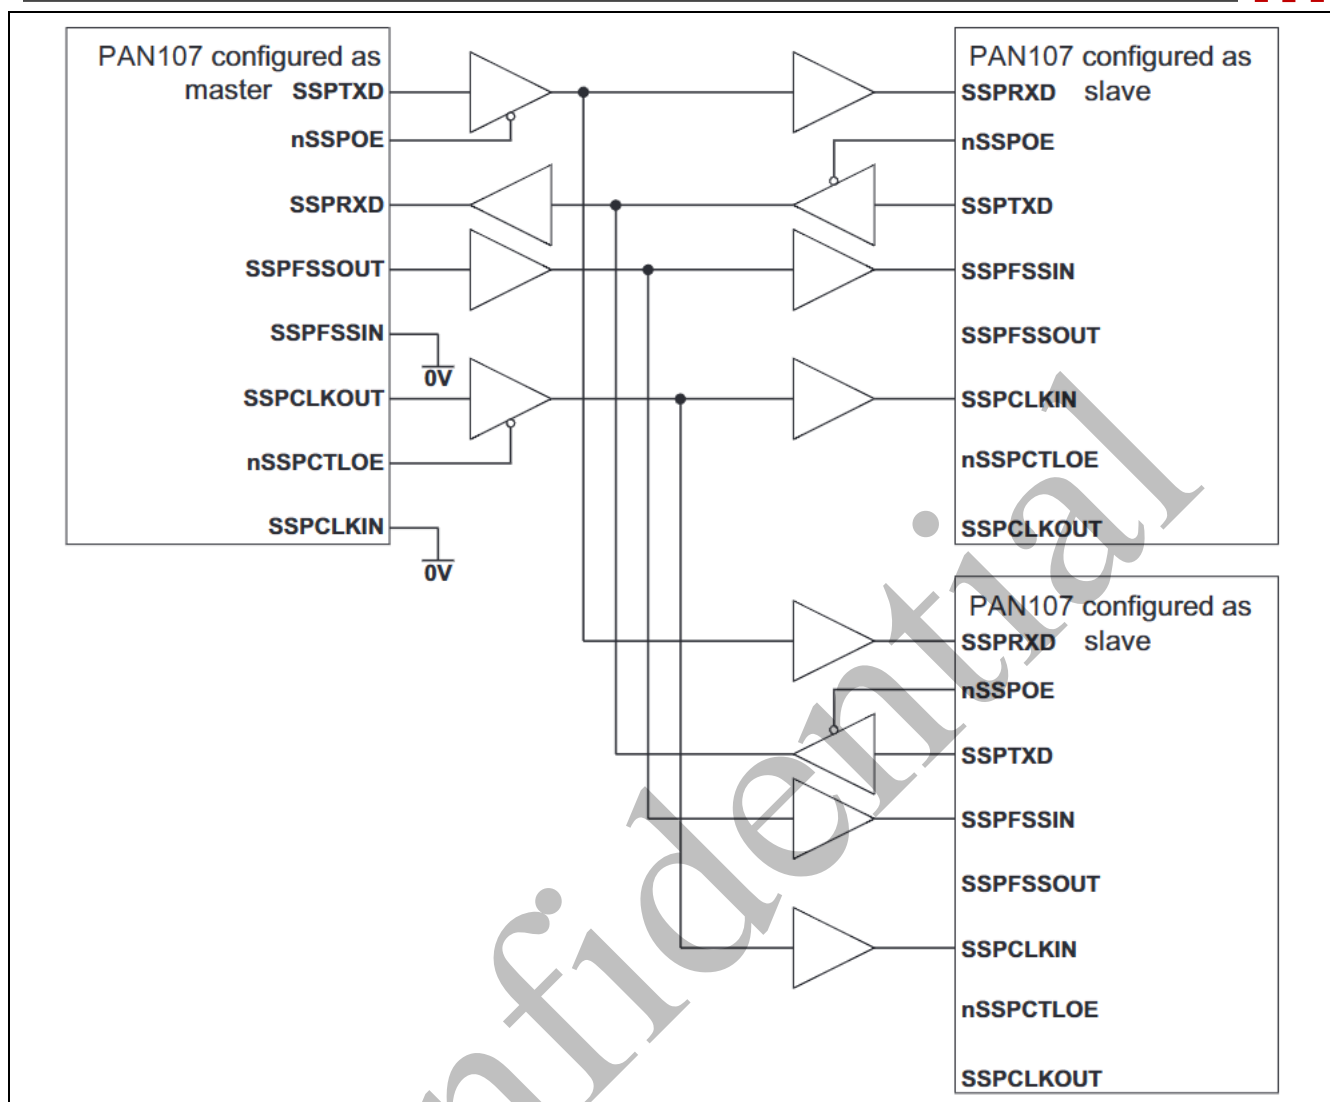
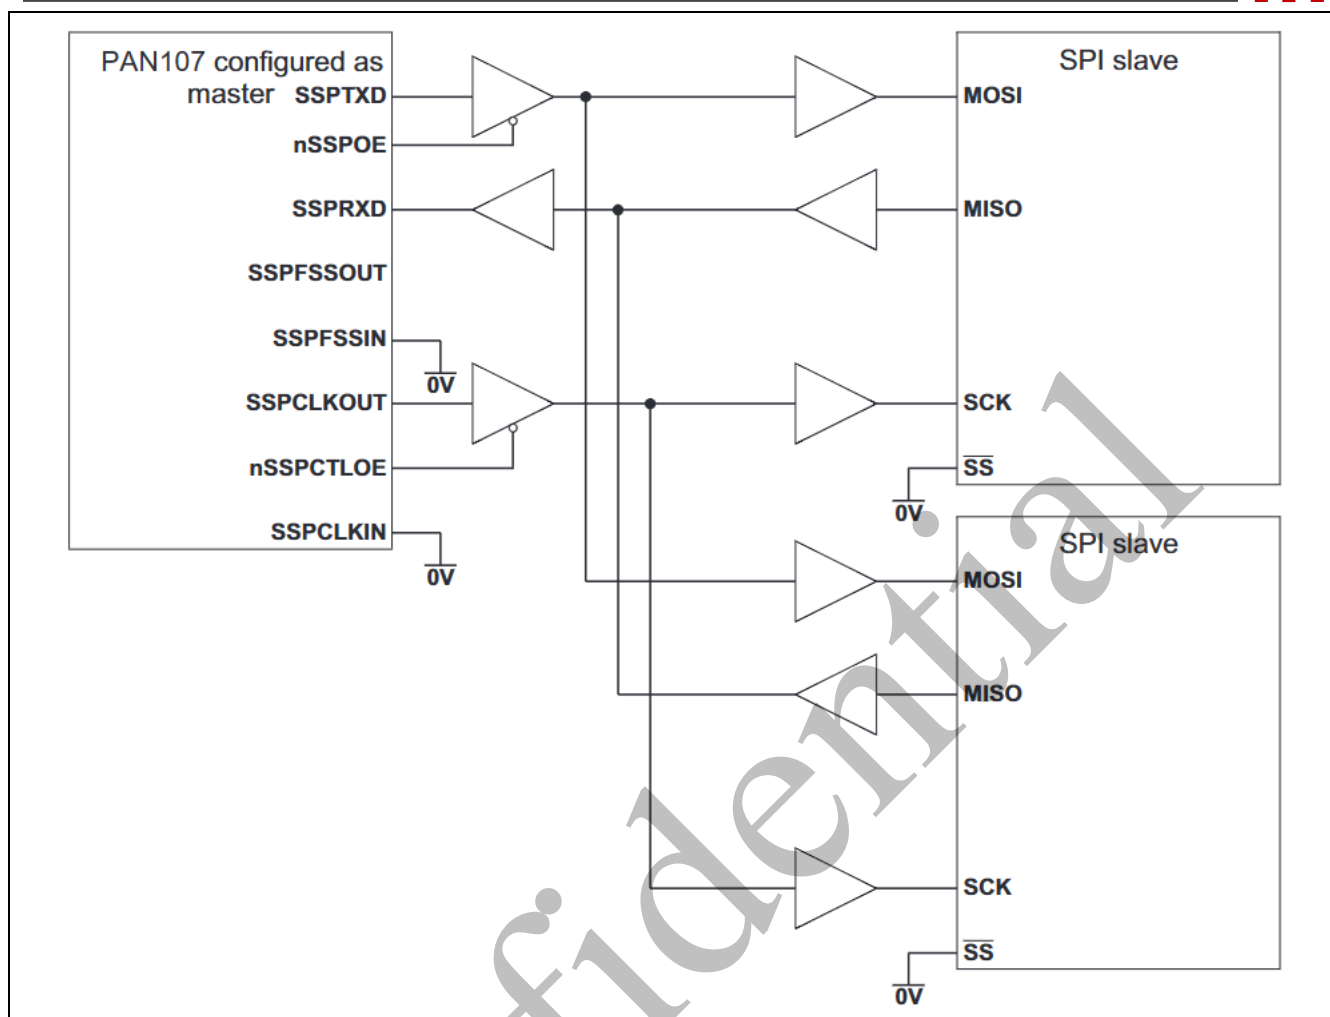
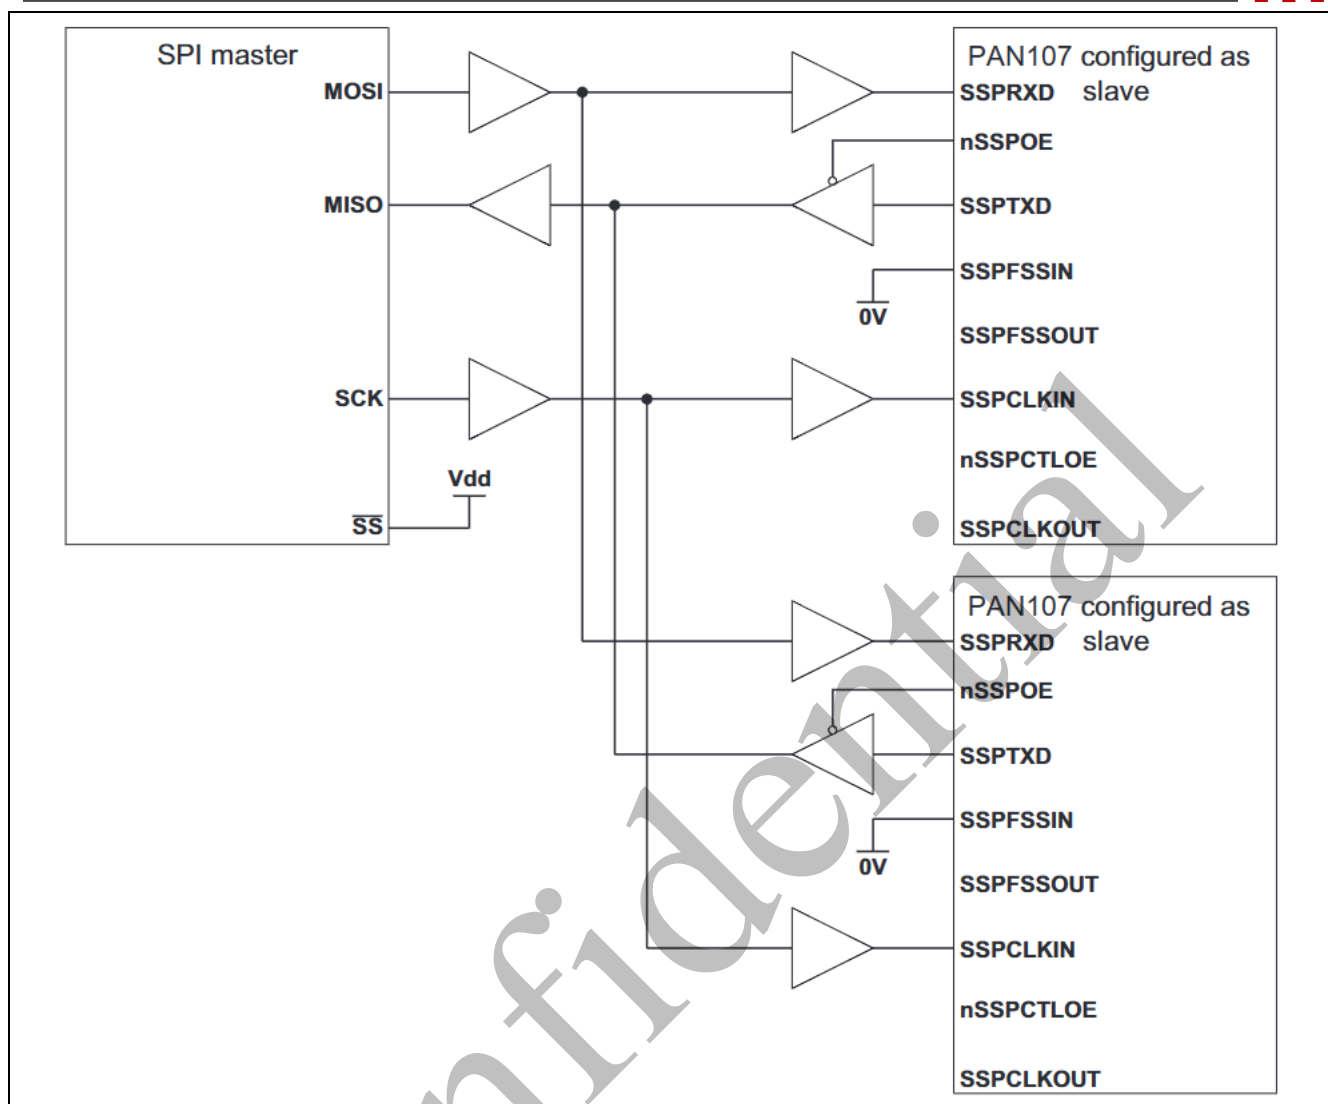

Figure 3-101 SSP master coupled to two slaves
Figure 3-102 SSP master coupled to two slaves
Figure 3-103 SPI master coupled to two SSP slaves
Figure 3-101, Figure 3-102 and Figure 3-103 show how the SSP peripheral can be connected to other synchronous serial peripherals, when it is configured as a master or slave.
Figure 3-101 shows the SSP instanced three times, as a single master and two slaves. The master can broadcast to the two slaves through the master SSPTXD line. In response, only one slave drives its nSSPOE signal HIGH, thereby enabling its SSPTXD data onto the SSPRXD line of the master.
Figure 3-102 shows how an SSP, configured as master, interfaces to two Motorola SPI slaves. Each SPI Slave Select (SS) signal is permanently tied LOW and configures them as slaves. Similar to the above operation, the master can broadcast to the two slaves through the master SSP SSPTXD line. In response, only one slave drives its SPI MISO port onto the SSPRXD line of the master.
Figure 3-103 shows a Motorola SPI configured as a master and interfaced to two instances of SSP configured as slaves. In this case the slave Select Signal (SS) is permanently tied HIGH and configures it as a master. The master can broadcast to the two slaves through the master SPI MOSI line and in response, only one slave drives its nSSPOE signal LOW. This enables its SSPTXD data onto the MISO line of the master.